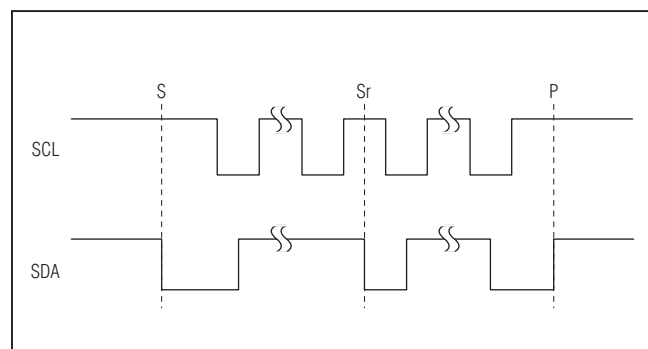

Figure 49. START, STOP, and REPEATED START Conditions
SDA and SCL idle high when the bus is not in use. A master initiates communication by issuing a START (S) condition. A START condition is a high-to-low transition on SDA with SCL high. A STOP (P) condition is a low-to-high transition on SDA while SCL is high (Figure 49). A START condition from the master signals the beginning of a transmission to the IC. The master terminates transmission and frees the bus, by issuing a STOP condition. The bus remains active if a REPEATED START (Sr) condition is generated instead of a STOP condition.